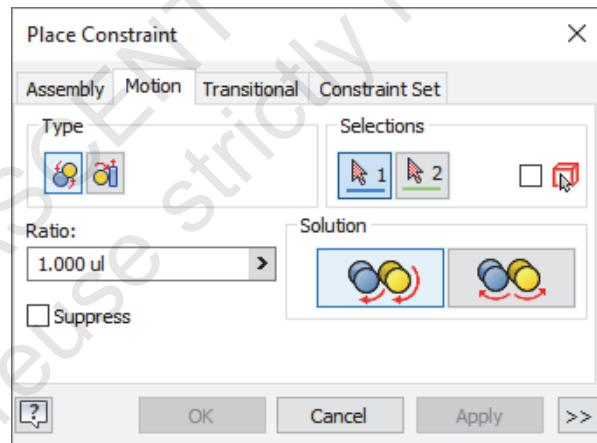

Figure 1–1
2. In the **Assemble** tab>Position panel, click (Constrain) to create a constraint relationship. Select the *Motion* tab in the Place Constraint dialog box, as shown in Figure 1–1.